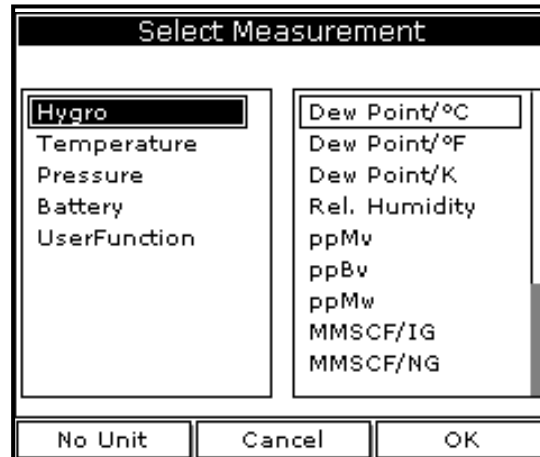

Figure 15: Select Measurement Window
2. Use the arrow keys to scroll to Measurement and press **[ENTER]**. The screen appears similar to *Figure 15*. The left column displays the five measurement types and the right column displays the measurement units.